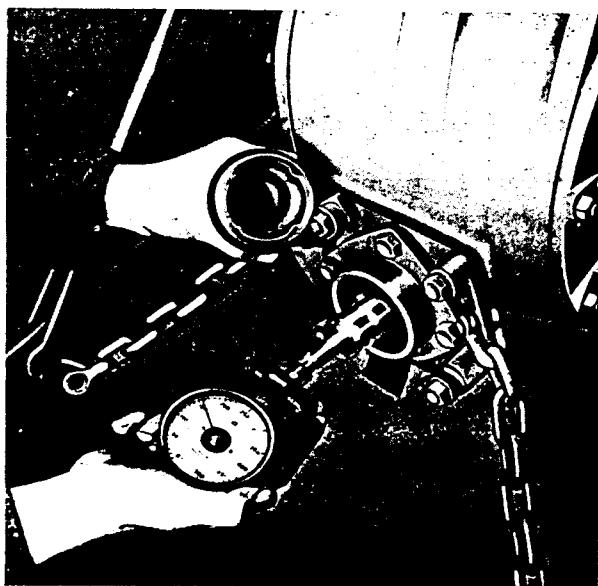

FIG. 7
- I. Thoroughly warm up engine. Disconnect fork end (A) of throttle tie rod from governor lever by removal of clevis. Set idling stop and mixture control screw to give a steady idling speed of 400-450 r.p.m. as described in Section E. This speed can be checked by means of a tachometer applied to the rear end of P.T.O. shaft as shown in Fig. 7.